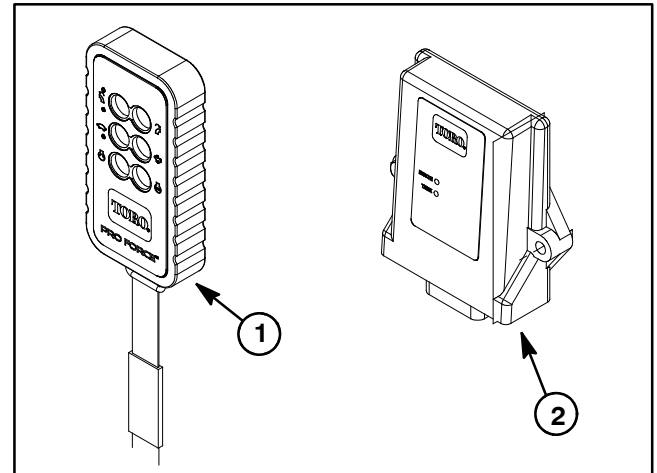

Figure 21
**NOTE:** Machines with a multi channel controller can be identified by the lack of an external antenna on the control module (Fig. 21).